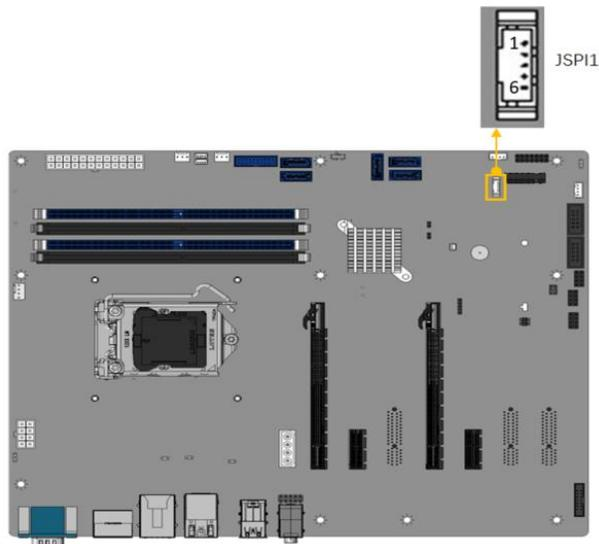

Figure 3-27: Flash SPI ROM Connector Location
- CN Location:** See **Figure 3-27**